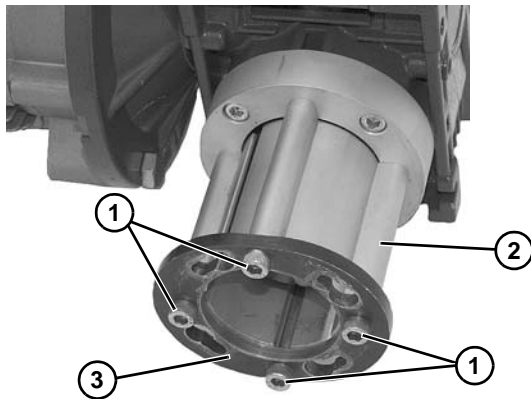

Figure 14
3. Remove the four (4) gearmotor coupling guard screws (**Figure 14, item 1**) and remove the gearmotor coupling guard (**Figure 14, item 2**) and mounting ring (**Figure 14, item 3**).
13. Install gearmotor coupling guard (**Figure 14, item 2**) and mounting ring (**Figure 14, item 3**) to gearmotor, and tighten screws (**Figure 14, item 1**) to 110 in-lb (12 N-m).